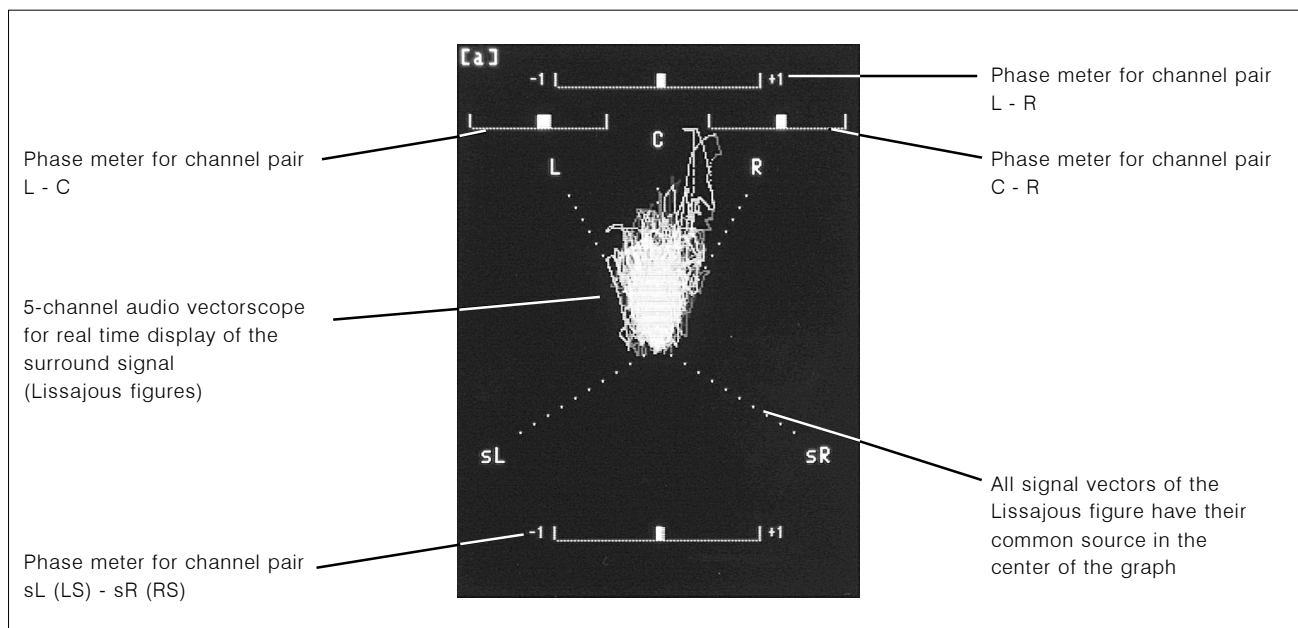

Fig. E 4-9: The vectorscope display in 3/2 (5.1) surround mode on the left TFT display
The Lissajous resp. Vectorscope is a display mode available in all 2-channel, 8-channel and surround modes. It can be used as an alternative method of displaying surround signals. In 5.1 surround mode (see Fig. E 4-9) the display includes four phase meters: L - R, L - C, C - R, sL (LS) - sR (RS).